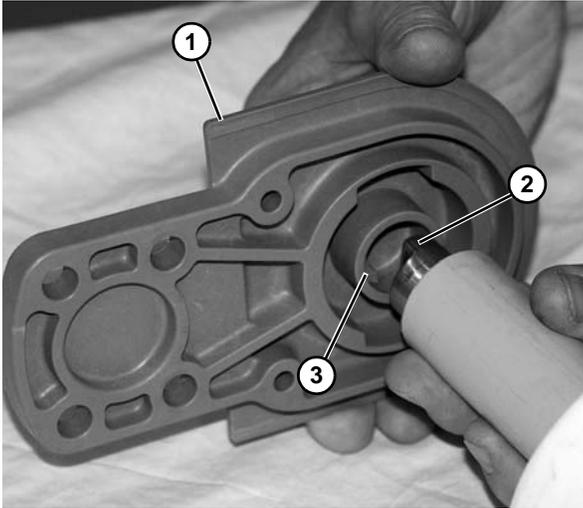

Figure 54
- Remove the headplate (**Figure 54, item 1**) from spindle. Repeat on opposite side.
Make note of the notch (**Figure 54, item 2**) on the spindle where it seats into notched area (**Figure 54, item 3**) in headplate.